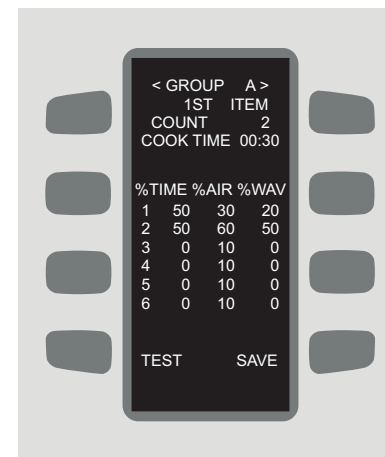

FIGURE 15: Edit Recipe Settings Screen
- Adjust the following components of a food item (see Figure 15 - to navigate from field to field, press the UP or DOWN key):